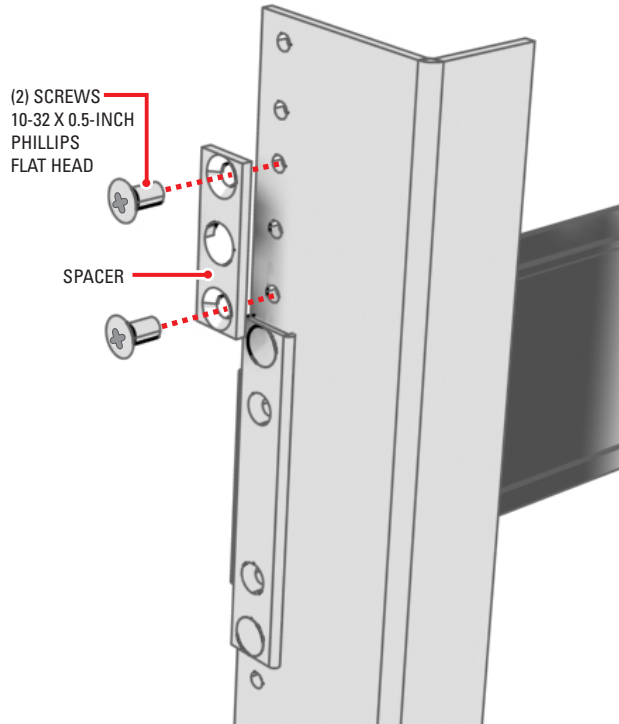

Figure 13. Attaching Rack Rail Spacers
8. Attach one rack rail spacer to the front of the equipment rack (refer to Figure 13):